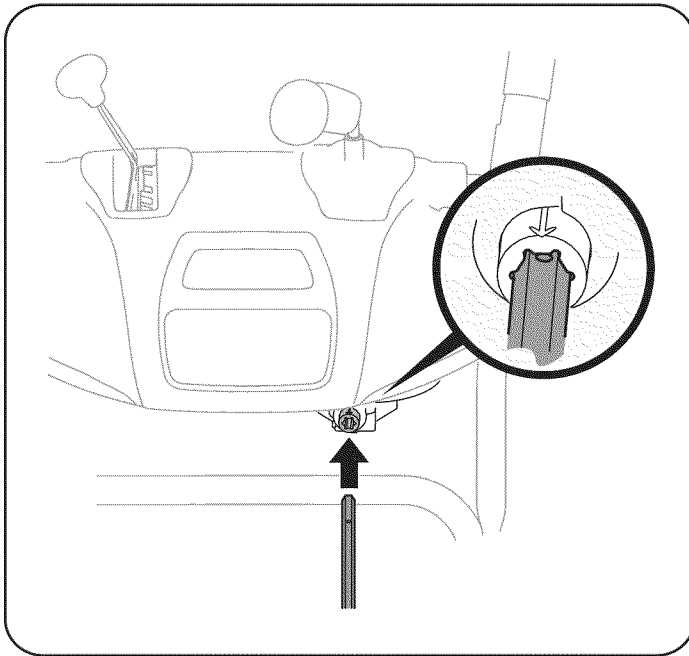

Figure 7
7. Make sure all cables are routed to the left of the chute control rod. Line up the hole in the rod with the arrow on the input shaft and insert the rod into the input shaft below joystick on handle panel. See Figure 7.